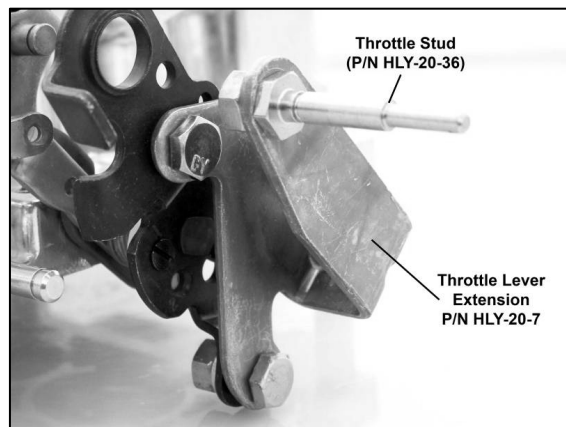

Figure 4—Chrysler applications
1. Unless you are replacing an existing carburetor (which already has a lever extension arm), you may need to purchase and install a throttle lever extension (Summit Part # SUM-M08082) on the carburetor. Remove the throttle stud and nut from the original carburetor and install the stud in the throttle extension lever (See Figure 4).